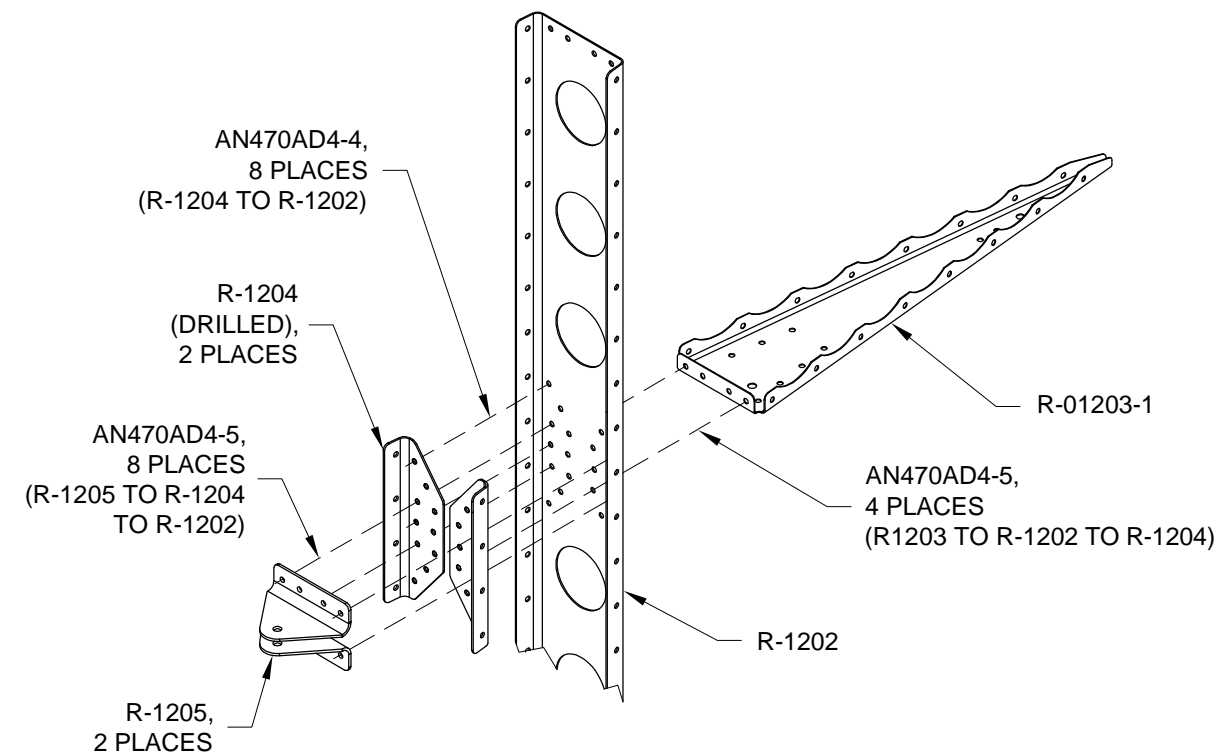

FIGURE 2: UPPER HINGE BRACKET ATTACHMENT
Step 2: Remove the R-1205 Hinge Brackets and WD-1205 Rudder Horn, (not shown). Rivet the R-1204 Spar Caps and the R-01203-1 Main Rib to the R-1202 Spar. Rivet only the four holes common to the main rib. See the rivet call-out in Figure 2.
Step 3: Rivet the R-1205 Hinge Brackets to the R-1204 Spar Caps and R-1202 Spar. Rivet the remaining holes in the spar caps to the spar. See the rivet call-outs in Figure 2.